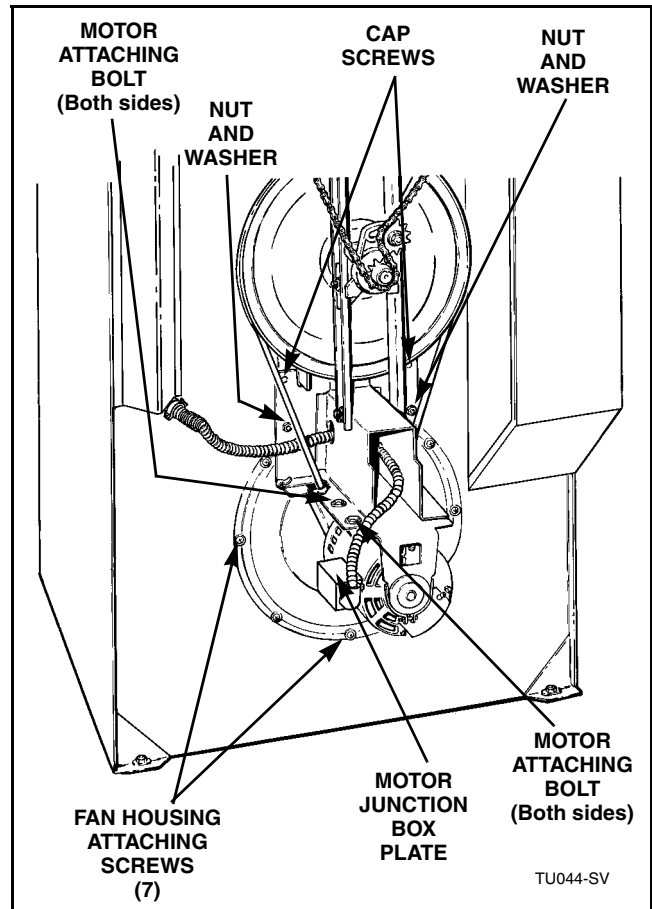

Figure 16
- Remove the seven fan housing attaching screws. Refer to *Figure 16*.
- Remove the two cap screws and two sets of nuts and washers holding motor bracket to rear of tumbler cabinet. Refer to *Figure 16*.
- Remove four sets of nuts, washers and bolts holding mounting bracket to motor. Refer to *Figure 16*.
- c. Remove the seven fan housing cover attaching screws. Refer to *Figure 16*.
- d. Remove the two cap screws and two sets of nuts and washers holding motor bracket to rear of tumbler cabinet. Refer to *Figure 16*.
- g. Remove four sets of nuts, washers and bolts holding mounting bracket to motor. Refer to *Figure 16*.